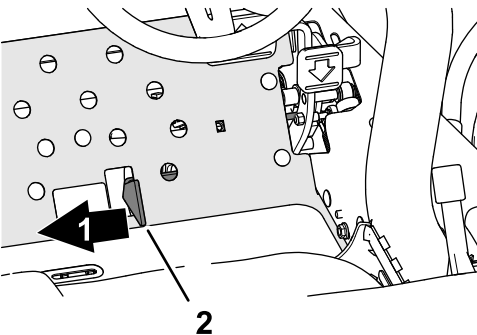

Figure 39
4. Move the mow/transport slide right, to the Mow position (Figure 39).
2. Move the mow/transport slide to the right to the MOW position (Figure 39).